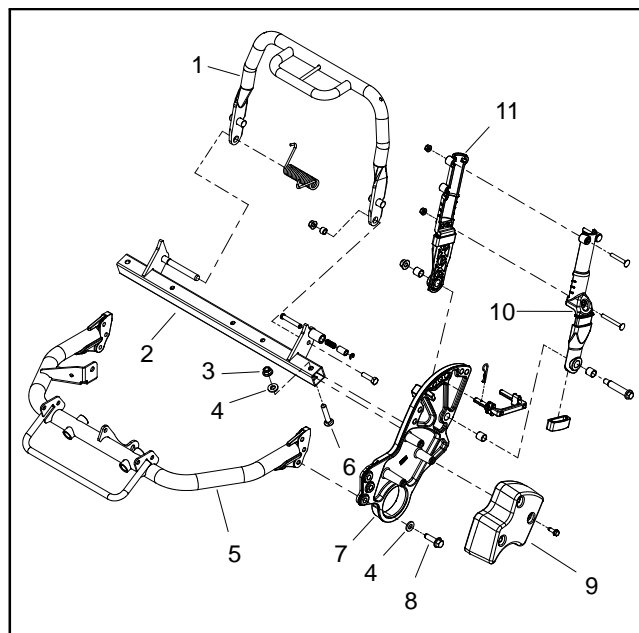
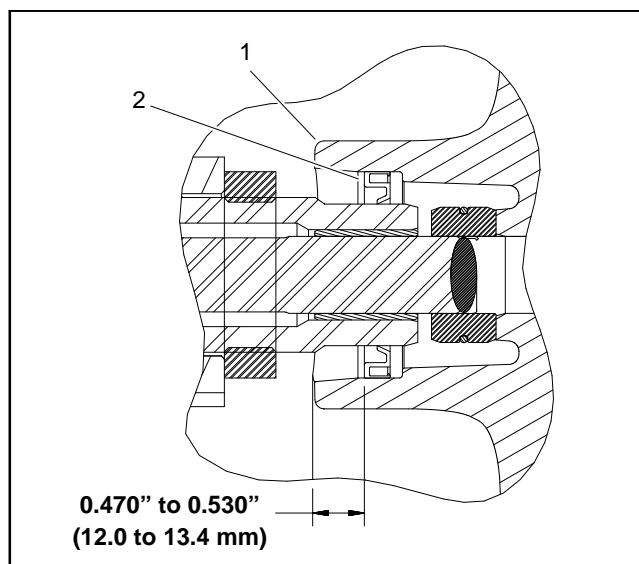

Figure 22
Figure 23
5. Separate LH side plate (item 25) from machine (Fig. 22):
A. Remove flange nut, hardened washer and carriage screw (items 3, 4 and 6 in Fig. 22) that secure LH side plate to rear frame.
B. Remove three (3) flange screws and hardened washers (items 8 and 4 in Fig. 22) that secure LH side plate to frame.
7. While retaining LH drum, loosen and remove bearing nut (item 15) from traction drum assembly. The ball bearing (item 14) is pressed onto the bearing nut so it will be removed with the nut.
8. Slide LH traction drum (item 13) from drum shaft. Locate and retrieve square key from shaft.
9. If necessary, carefully remove grease seal (item 12) from LH traction drum taking care to not damage bore of drum. Discard removed seal.
10. If necessary, remove LH hex shaft (item 16) and ball bearing (item 14) from bearing nut.
12. Remove O-ring (item 30), pin (item 28) and lock collar (item 27) from drum shaft.
13. While retaining remaining drum, loosen and remove jam nut (item 11) from long spur gear.
14. Remove RH traction drum (item 10) from machine. Locate and retrieve square key from spur gear.
4. Align slot in RH traction drum (item 10) with key on long spur gear and slide traction drum onto gear.
6. Install jam nut (item 11) onto threads of long spur gear to secure RH traction drum. Torque jam nut from **140 to 160 ft-lb (190 to 216 N-m)**.
7. Slide lock collar (item 27) onto drum shaft. Align holes in collar and shaft and then install pin (item 28). Fit O-ring (item 30) to slot in collar.
8. If grease seal (item 12) was removed from LH traction drum, install new grease seal into drum. Make sure that seal lip is orientated toward center of drum. Press seal into drum bore so that seal is recessed from 0.470" to 0.530" (12.0 to 13.4 mm) from edge of drum (Fig. 23).
9. Place square key (item 6) into slot of drum shaft. Apply antiseize lubricant to top surface of key.
10. Align slot in LH traction drum (item 13) with key on drum shaft and carefully slide traction drum onto shaft taking care to not damage grease seal in drum.
12. Make sure that ball bearing (item 14) is pressed onto the bearing nut (item 15). While retaining LH drum, secure drum to traction drum assembly with bearing nut (item 15). Torque bearing nut from **75 to 90 ft-lb (102 to 122 N-m)**.
13. Secure LH side plate (item 25) to machine (Fig. 22):
B. Secure LH side plate to frame with three (3) flange screws and hardened washers.